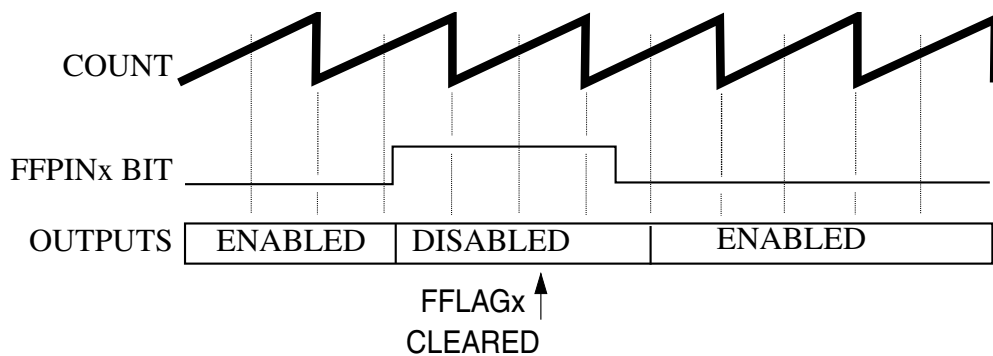

Figure 112. Manual fault clearing (FCTRL[FSAFEx] = 1, FSTS[FHALFx] = 1)
- The filter detects a logic zero on the FAULT_x pin at the start of the next PWM full or half cycle boundary, as shown in Figure 112. If FSTS[FFULL_x] is set, then the disabled PWM pins are enabled at the start of a full cycle. If FSTS[FHALF_x] is set, then the disabled PWM pins are enabled at the start of a half cycle.